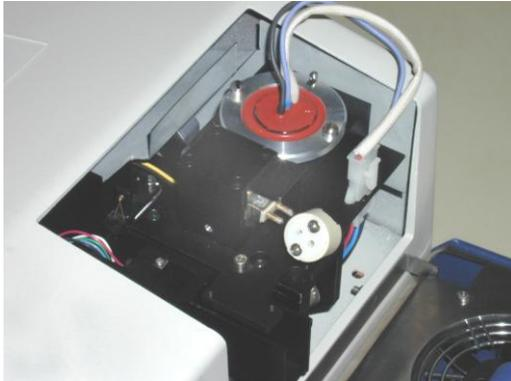

Figure 3-7. Halogen lamp socket disconnected from halogen lamp base
3. Unplug the halogen lamp socket from the base of the halogen lamp (Figure 3-7).